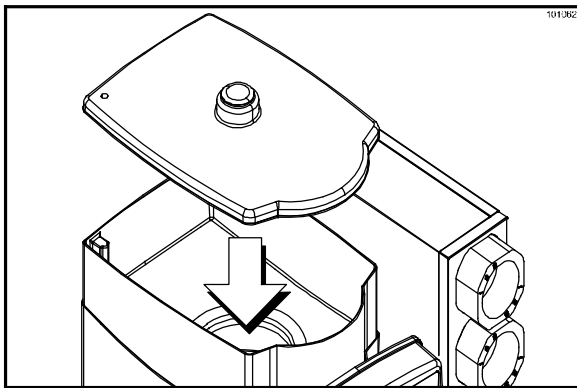

Figure 67
9. Reinstall the ice hopper cover. (See Figure 67.)